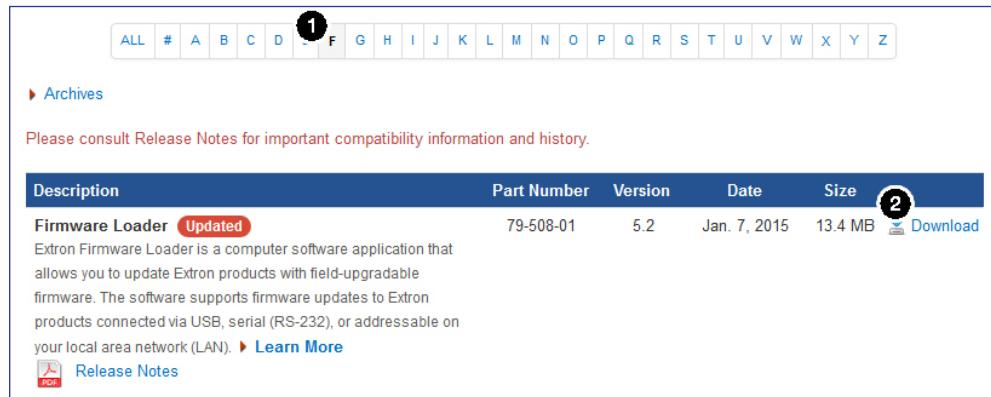

Figure 8. Firmware Loader on the Extron Website
3. Navigate to **Firmware Loader** (see figure 8, **1**).
4. Click the **Download** link (see figure 8, **2**) on the right that corresponds with the program.